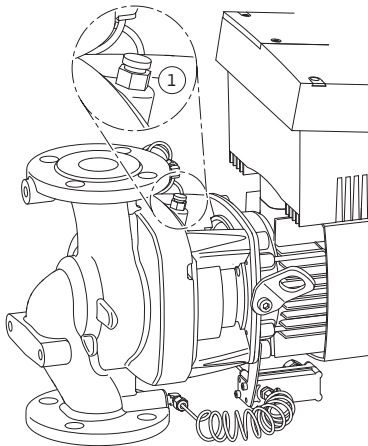

Fig. 49: Ventilation valve
6. Depressurise the pump by opening the air vent valve (Fig. 49 Item 1)